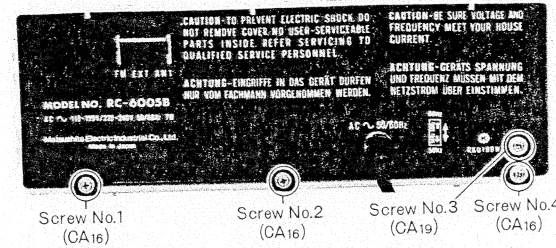

Fig. 1
1. Remove four (4) rear panel screws, nos. 1~4, as illustrated in fig. 1.